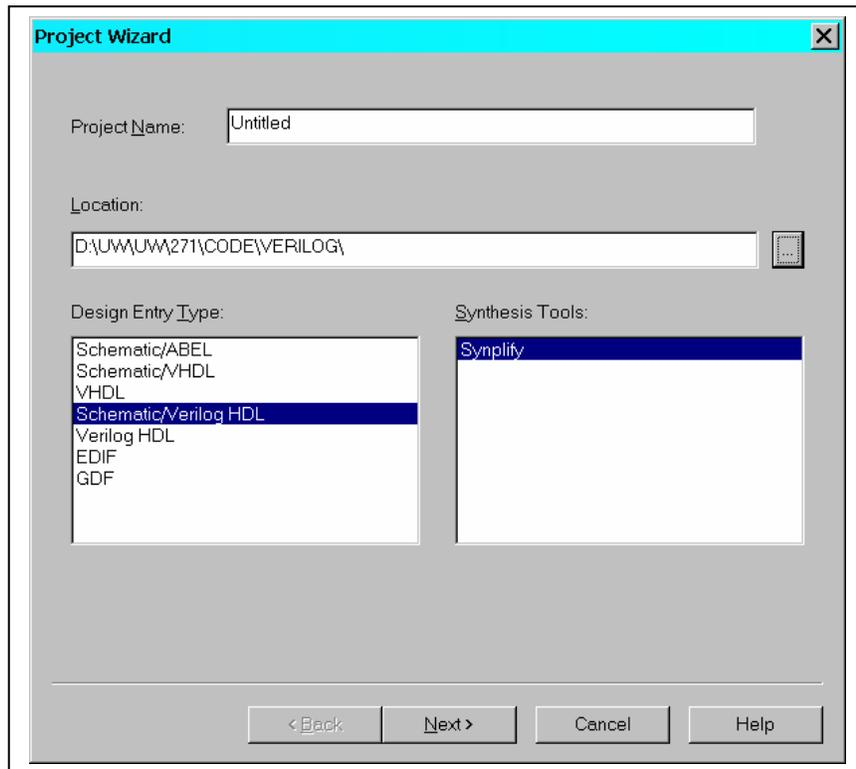

Figure 1.
3. In the *Design Entry Type* menu, select **Schematic/Verilog HDL** as in Figure 1.